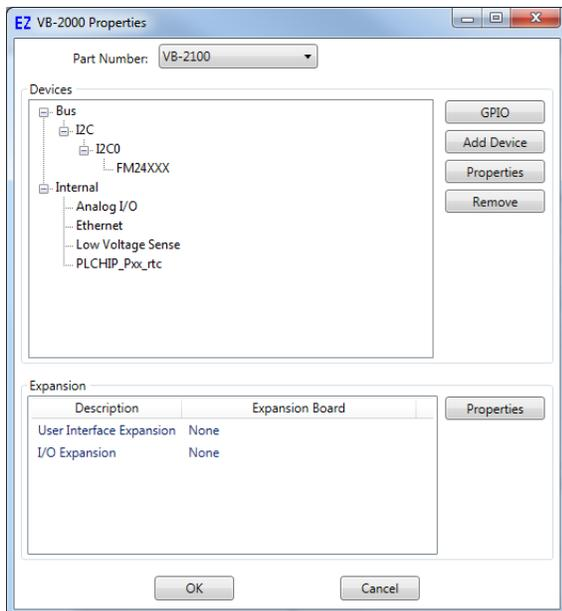

Figure 28-1
- Click the **PROPERTIES** button. The *target's Properties* dialog will open. Refer to Figure 28-1.